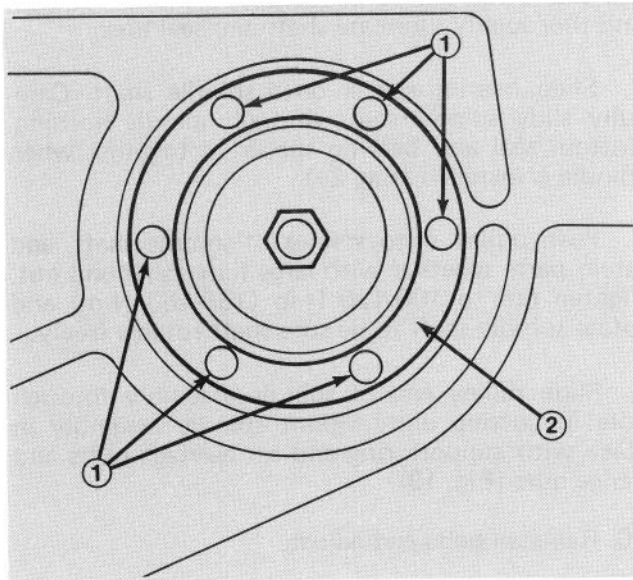

Figure 19
3. Remove six carriage bolts and flange nuts holding spindle housing assembly and support ring against cutting unit (Fig. 19). Slide spindle housing assembly out bottom of cutting unit.
9. Slide pulley end of spindle assembly through hole in cutting unit. Mount spindle assembly in place with support ring and six carriage bolts and flange nuts (Fig. 19).